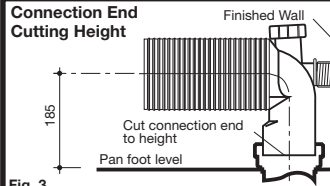

Fig. 3
- 4- Fit connector to pan connector and determine cutting length of connection end to provide standard seal and centre height of 185mm. Allow 10mm for mortar bedding if required. Remove and cut to length, as detailed in **Fig. 3**.